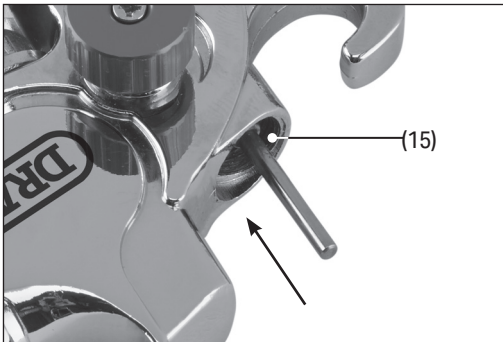

Fig. 5
6. Ensure that the new fluid needle is free from debris and insert it point-first into the needle chamber through the back of the spray gun body (Fig. 5).
**Important:** Ensure that the needle point aligns with and passes through the trigger cylinder (15) when it is inserted.